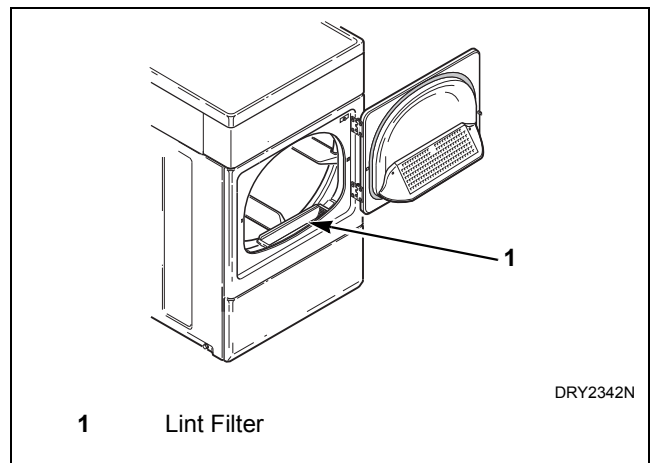

Figure 40
**CLEAN THE LINT FILTER BEFORE DRYING EACH LOAD.** (Refer to *Figure 40* for lint filter location.) Cleaning the lint filter is important because a layer or pad of lint on the filter will block the flow of air through the dryer, thus reducing the efficiency of the dryer. The clothes will take longer to dry and energy will be wasted.